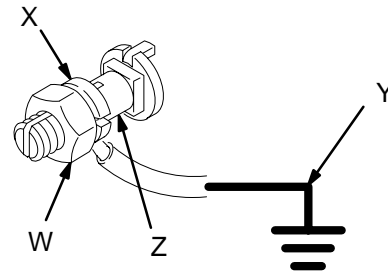

Fig. 2
- *Pump:* Use a ground wire and clamp as shown in Fig. 2. Loosen the grounding lug locknut (W) and washer (X). Insert one end of a 12 ga (1.5 mm²) minimum ground wire (Y) into the slot in lug (Z) and tighten the locknut securely. Connect the other end of the wire to a true earth ground. Order part number 222011 Grounding Clamp and Wire.